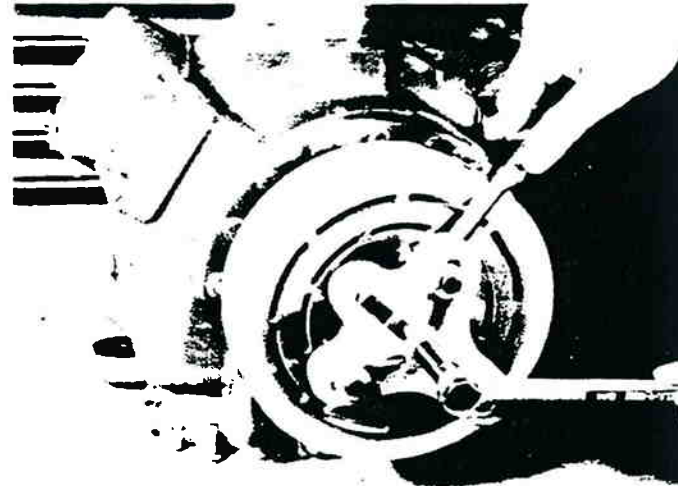

Figure 16-55: Removing Pulley
8. Install the gear puller into the three threaded holes of the clutch rotor. Refer to figure 16-55.
9. Rotate the puller bolt with a wrench and, while holding the rotor with a bar to prevent movement, draw the pulley from the bearing mounting hub. See figures 16-55 and 16-56.